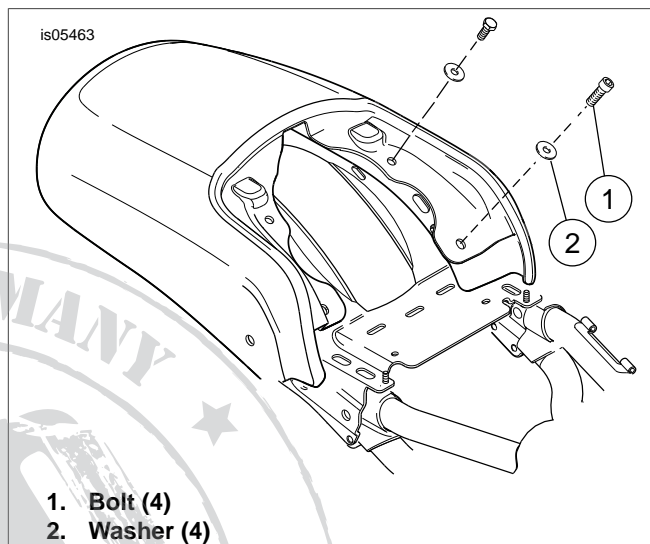

Figure 1. Fender Mounting Bolts
1. See Figure 1. Remove four rear fender mounting bolts (1) and washers (2). If necessary, move the ECM to access the four fender mounting bolts.
16. See Figure 1. Install four fender mounting bolts (1) and washers. Tighten to 20-26 Nm (15-19 ft-lbs).